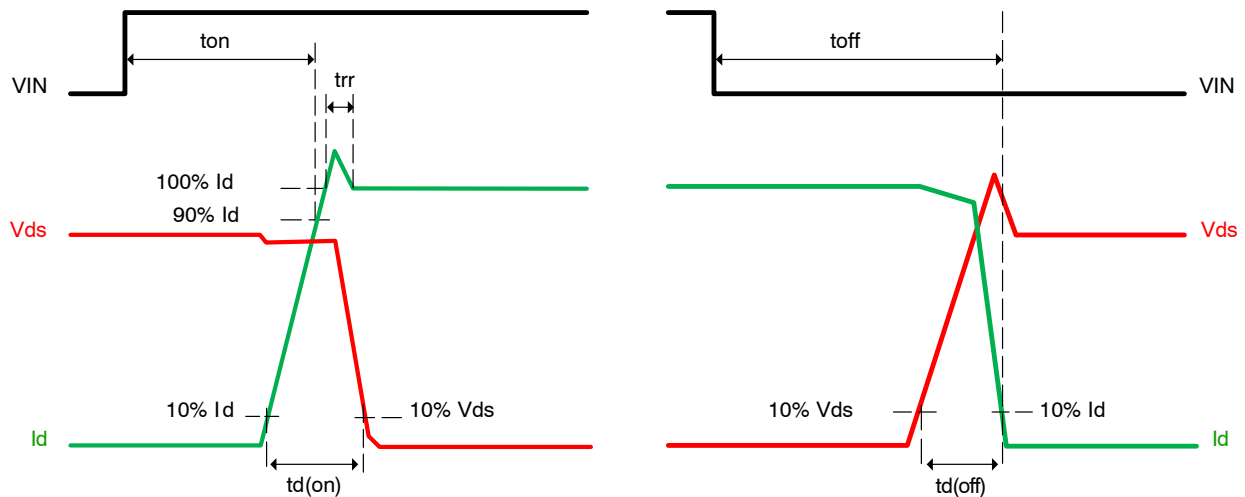

Figure 4. Switching Time Definitions
| Switching times | High Side Switching Times | V _{PN} = 600 V, V _{DD} = 18 V, I _D = 50 A T _j = 25°C, Inductive Load Switching See Figure 4, 25, 26 (Note 4) | ton | 0.55 | 1.05 | 1.55 | μs |
- ton and toff include the propagation delay of the internal drive IC. tc(on) and tc(off) are the switching times of MOSFET under the given gate-driving condition internally. For the detailed information, please see Figure 4.